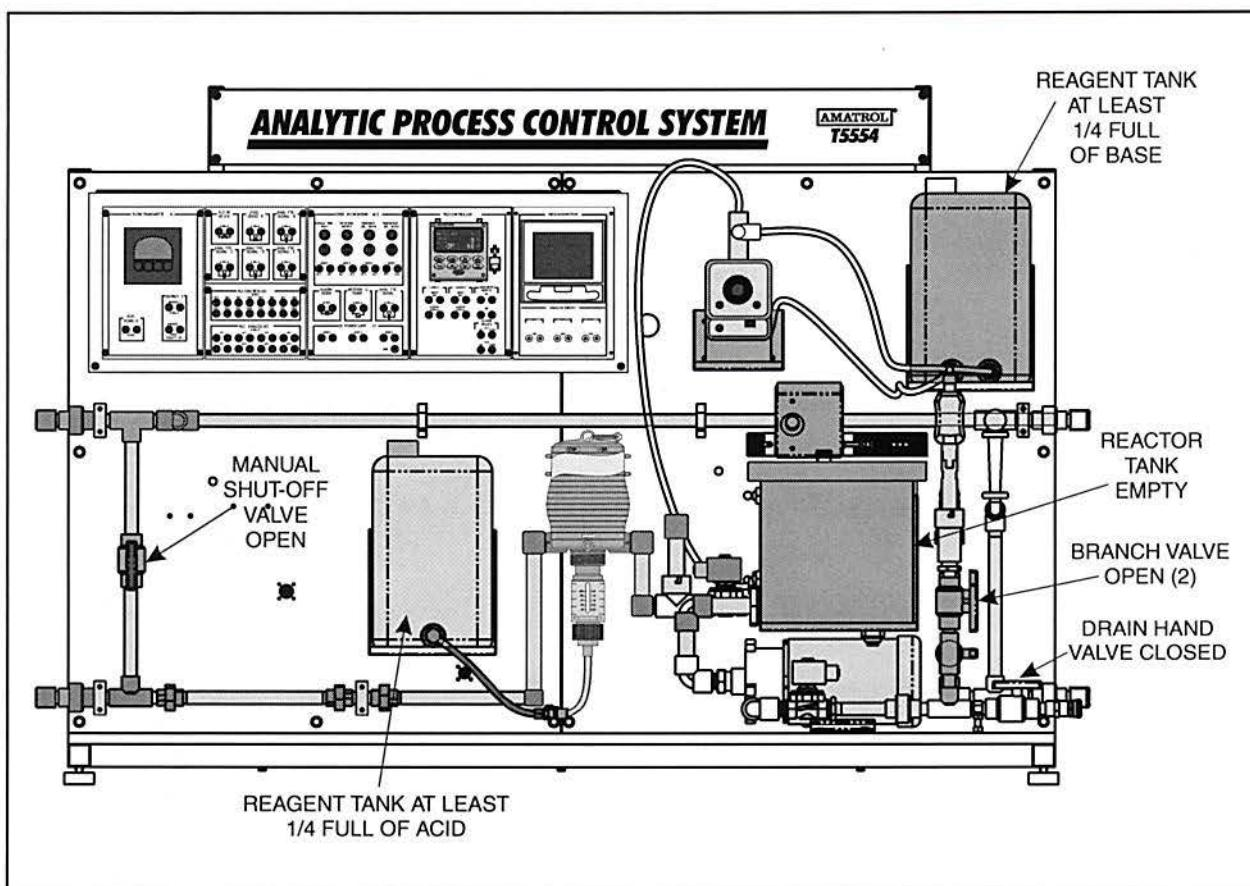

Figure 26. T5554 Setup
2. Perform the following substeps to make sure the T5554 Analytical Process Control System is set up as shown in figure 26.